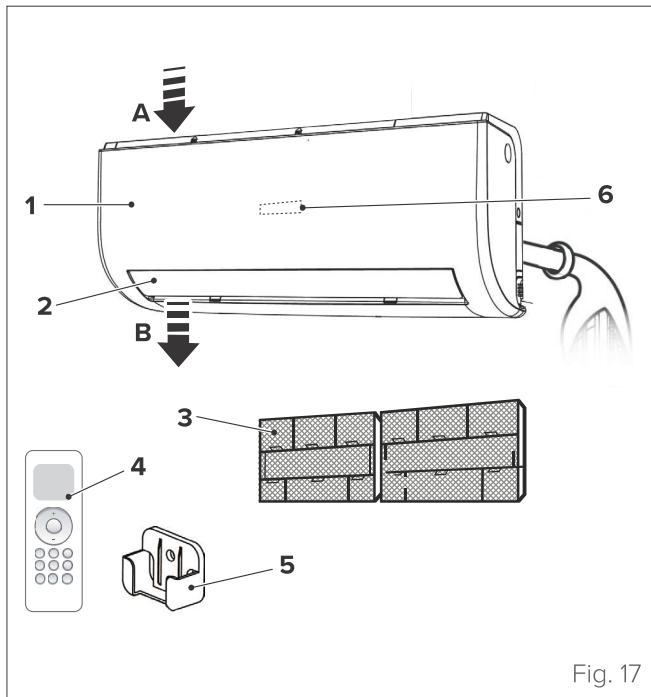

Fig. 17
- 2 Use a bracket or wedge to lift the unit so that there is enough space to connect the refrigerant piping, electrical cables and drainage pipe (see “Fig. 17”).